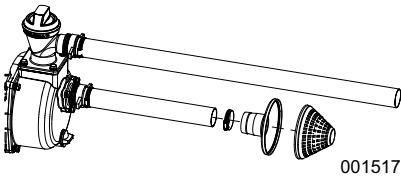

Figure 2-6. Typical Strainer Attachment
4. See Figure 2-6. Attach the strainer to the suction hose.